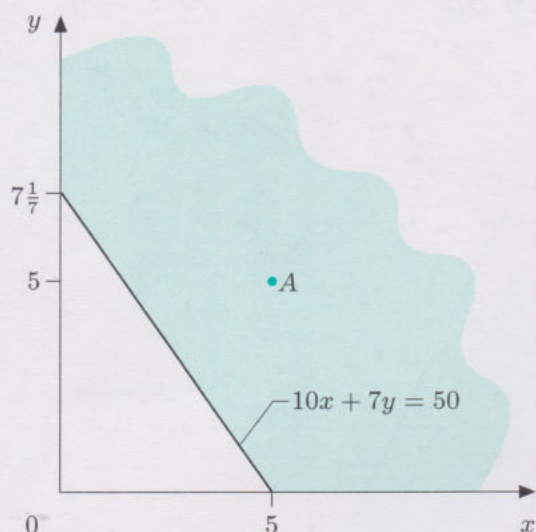

Figure 54
cuts the axes at $x = 5$ and $y = 50/7 = 7\frac{1}{7}$, as shown in Figure 54.
The point A in Figure 54, with $x = 5$, $y = 5$, is such that $10x + 7y = 85 > 50$, so the region represented by inequality (34), shaded in Figure 54, is above the line. (This is the opposite of what happened in Example 14, where the inside of the corresponding triangular region was the one represented by the inequality.)